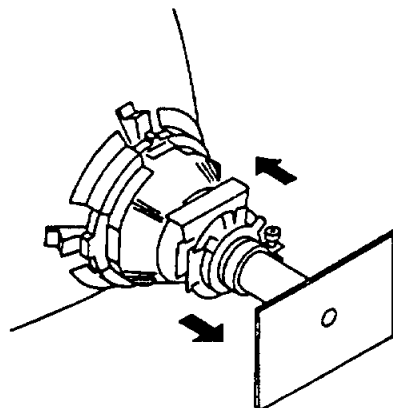

Fig. 1
5. Move the deflection yoke forward, and adjust so that the entire screen becomes green. (Fig.1)